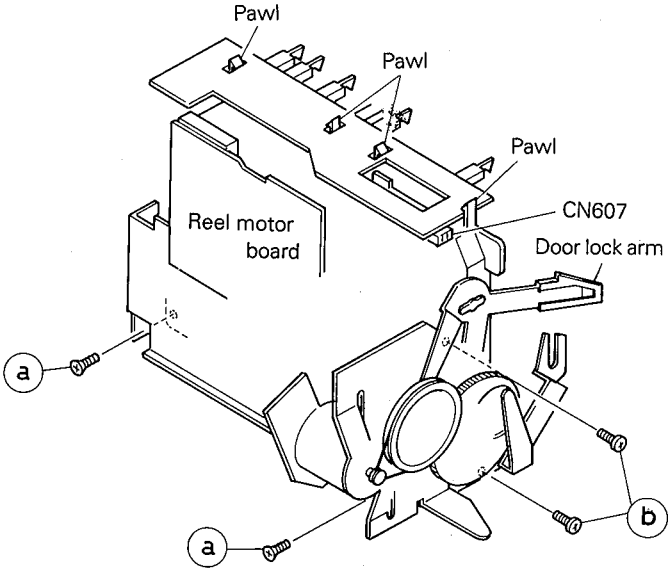

Fig. 2-10
■ **Door motor unit** (Fig. 2-10)
- 2) Remove two screws ② retaining the mechanism holder and mechanism chassis.
- 3) Disengage the eject lock arm from the shaft, then remove two screws ③ retaining the DD motor bracket (TD-R472) /FM bracket (TD-R461).